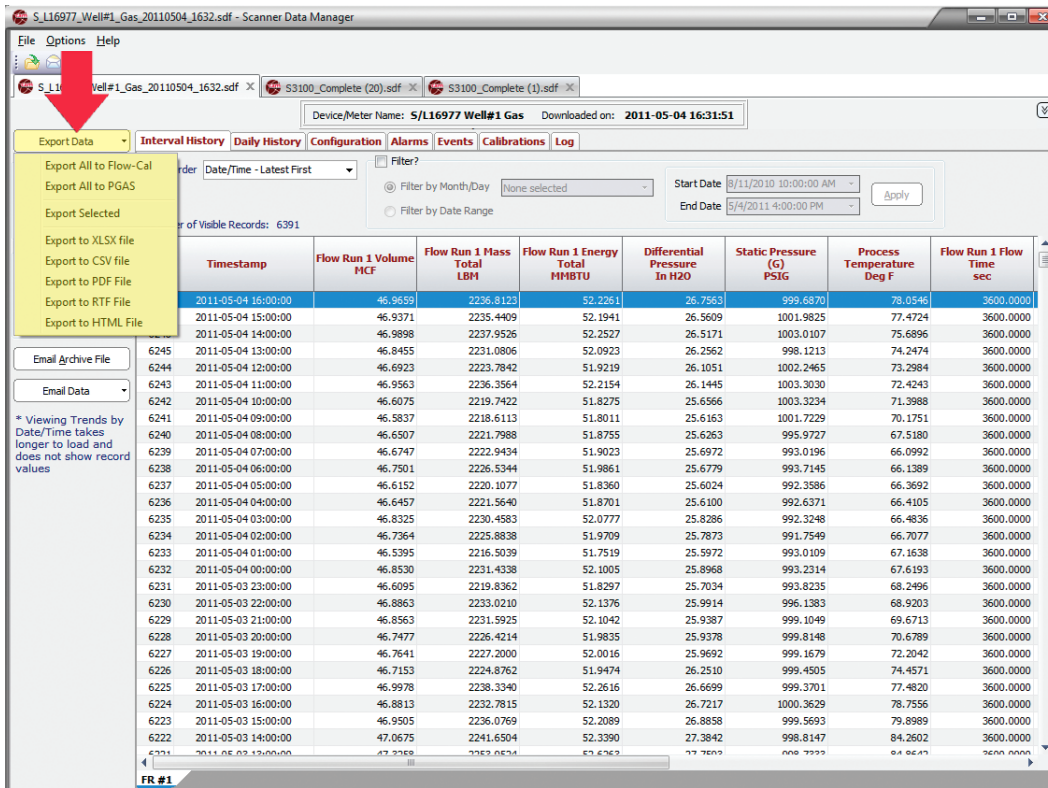

Figure 5.9—Export Data button and dropdown menu
2. Click on the **Export Data** button in the left column of the main screen and choose the desired **Export All to...** selection from the dropdown menu (Figure 5.9, page 62).